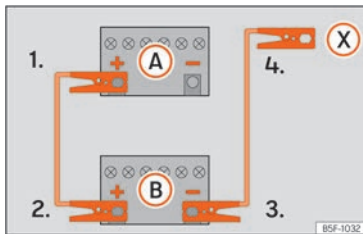

Fig. 77 Diagram of connections for vehicles without Start-Stop system.
2. Connect one end of the *red* jump lead to the positive (+) terminal of the vehicle with the flat battery (A) » » Fig. 77.
3. Connect the other end of the *red* jump lead to the positive terminal (+) in the vehicle providing assistance (B).
- 4a. *In vehicles without a Start-Stop system:* connect one end of the *black* jump lead to the negative terminal (-) of the vehicle providing the current (B) » » Fig. 77.